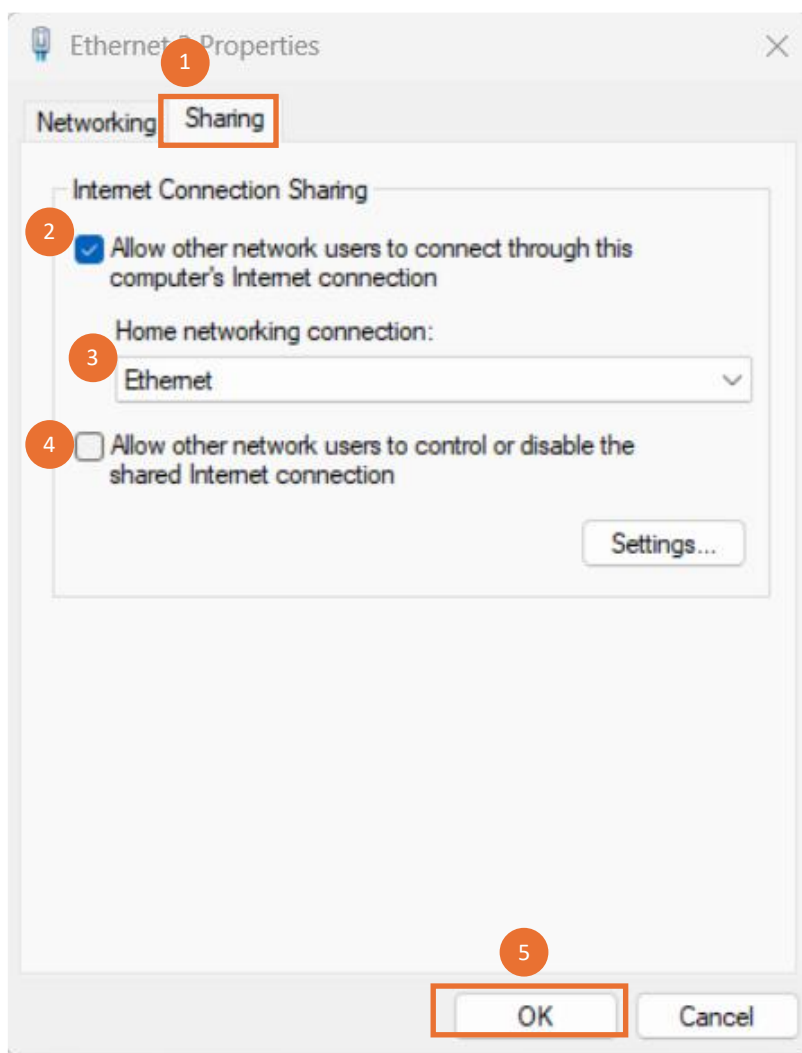

Figure 5.25. Network Adapter Properties
6. Share the connection as shown in Figure 5.25: